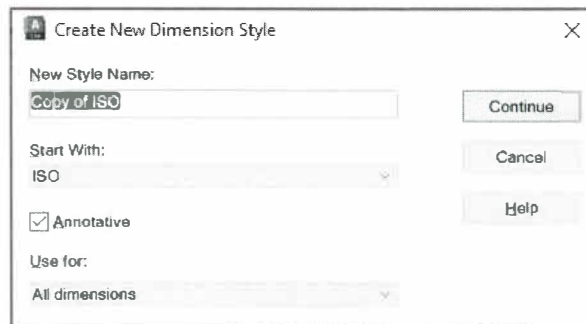

Figure 9-6
3. The Create New Dimension Style dialog box opens, as shown in Figure 9-6. In the Start With drop-down list, select a style to use as a template. In the *New Style Name* field, type a new style name and then select the **Annotative** option as required. Click **Continue**.